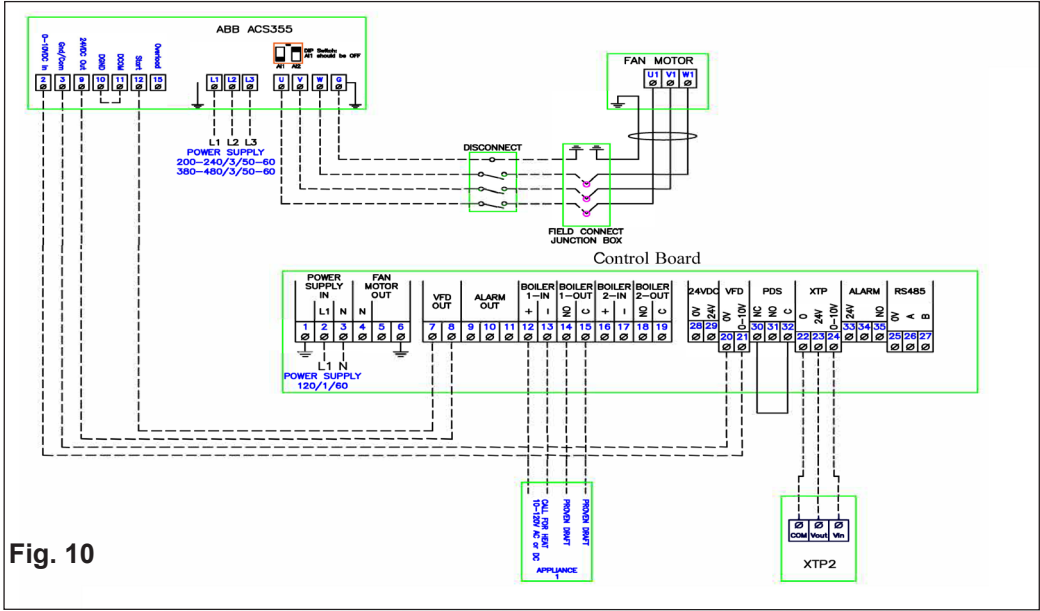

Fig. 10
- If using a 3-phase fan and VFD, connect the VFD to terminals 20 and 21 as shown in Fig. 10 and 11.
- ▶ If using a 3-phase fan and VFD, connect the VFD to terminals 20 and 21 as shown in Fig. 10 and 11. **DO NOT** connect the fan directly to the EBC24 control.
To connect the 3-phase fan and variable frequency drive (VFD), connect the VFD to terminals 20 and 21 of the EBC24. **DO NOT** connect the fan directly to the control. Wire the ABB ACS355 series variable frequency drive according to fig. 10.